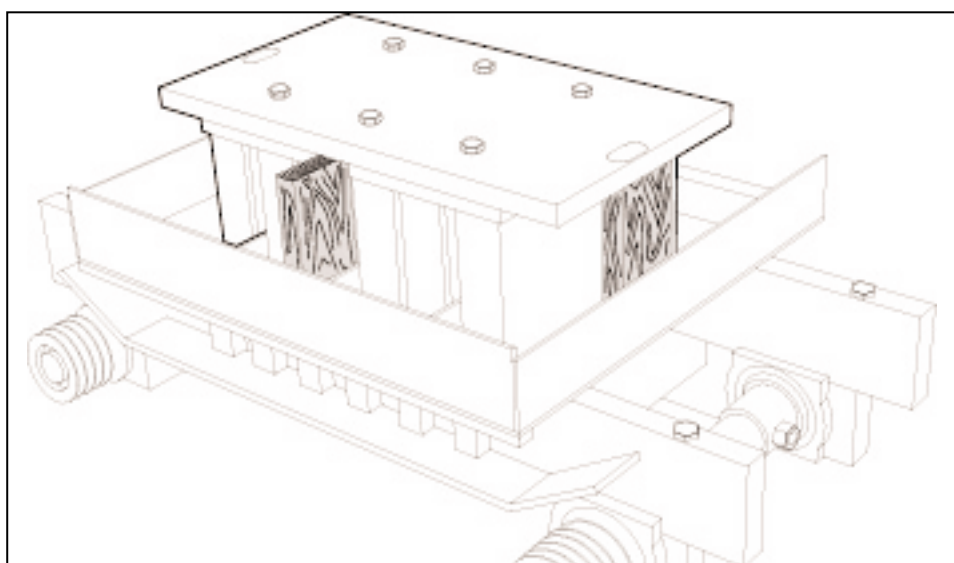

Figure 5.11 STRIPPER HEAD POSITIONED IN MOLD.
5.4.9 Place stripper head down in mold using two pieces of 2" x 4" x 8" wood blocking, and one piece of 2" x 4" x 7-1/2" to assure a space between stripper head plate and mold top plate. Use the 8" blockings in the rear corners and the 7-1/2" blocking in the front center to clear bolt holes in the stripper head top plate (see figure 5.11).